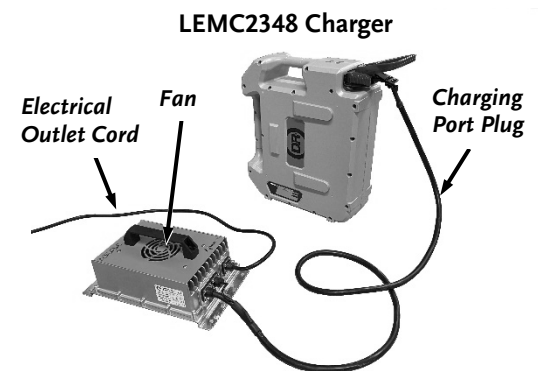

Figure 38
2. Insert the charging port plug into the battery pack (**Figure 38**).